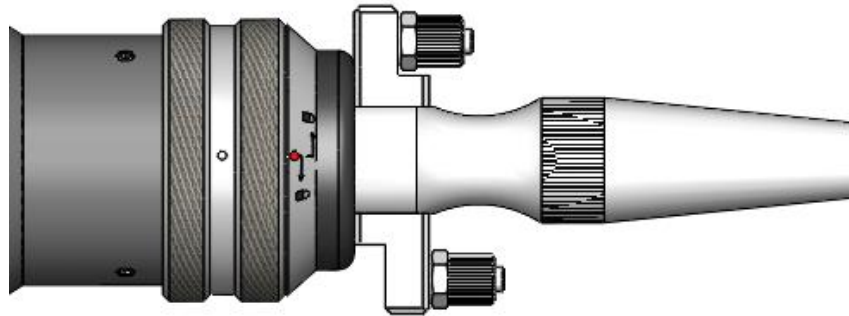

Figure 1.9
- ⑤ Turn the QBH connector to the locked state, that is, screw it toward the limit position clockwise (a "thud" sound can be heard). Then lift the swivel nut up and screw the nut clockwise again until the fiber tip is compressed tightly. (Clockwise: toward the direction of the "locked" icon). Do not twist with great force, otherwise the internal structure of the QBH may be damaged, as shown in Figure 1.9.